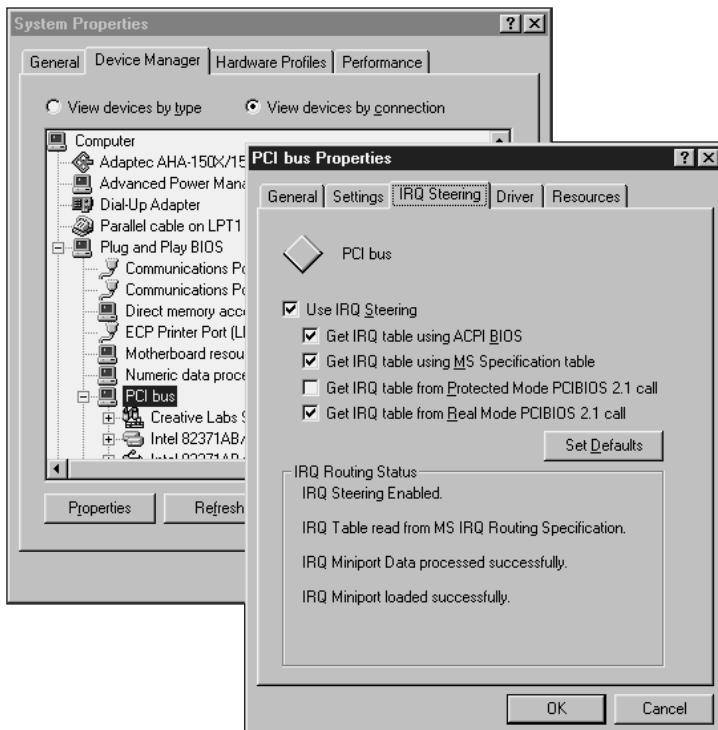

Figure 9-25 To enable or disable PCI bus IRQ steering, use the Properties box of the PCI bus
3. Select the **IRQ Steering** tab, as shown in Figure 9-25 for Windows 98.